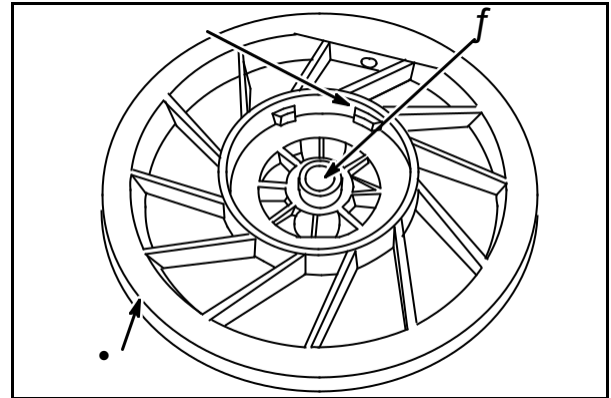

Fig. 67
Inspect pulley for cracks, rough edges (1) or burrs in pulley groove, wear on spring cup lugs (2), and wear on center hole (3), **Fig. 67**. Replace pulley if damaged or worn.